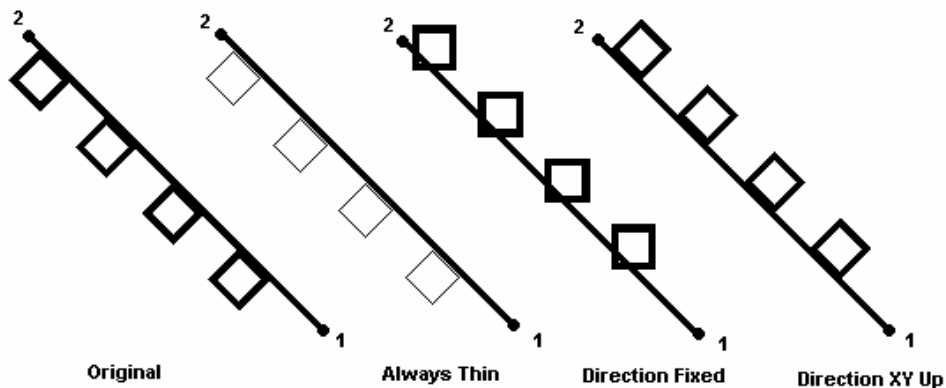

Figure 3. Shape Flags.
- Flags – flags that determine Shape representation specifics. (see Figure 3)
- Shape flags determine how a shape will be drawn and positioned. Their effect is shown on Figure 3.
This illustration in Figure 3 shows a line drawn from point 1 to point 2. The line has a non-zero Line Width. The examples show four styles, which differ only in their use of the Shape flags: